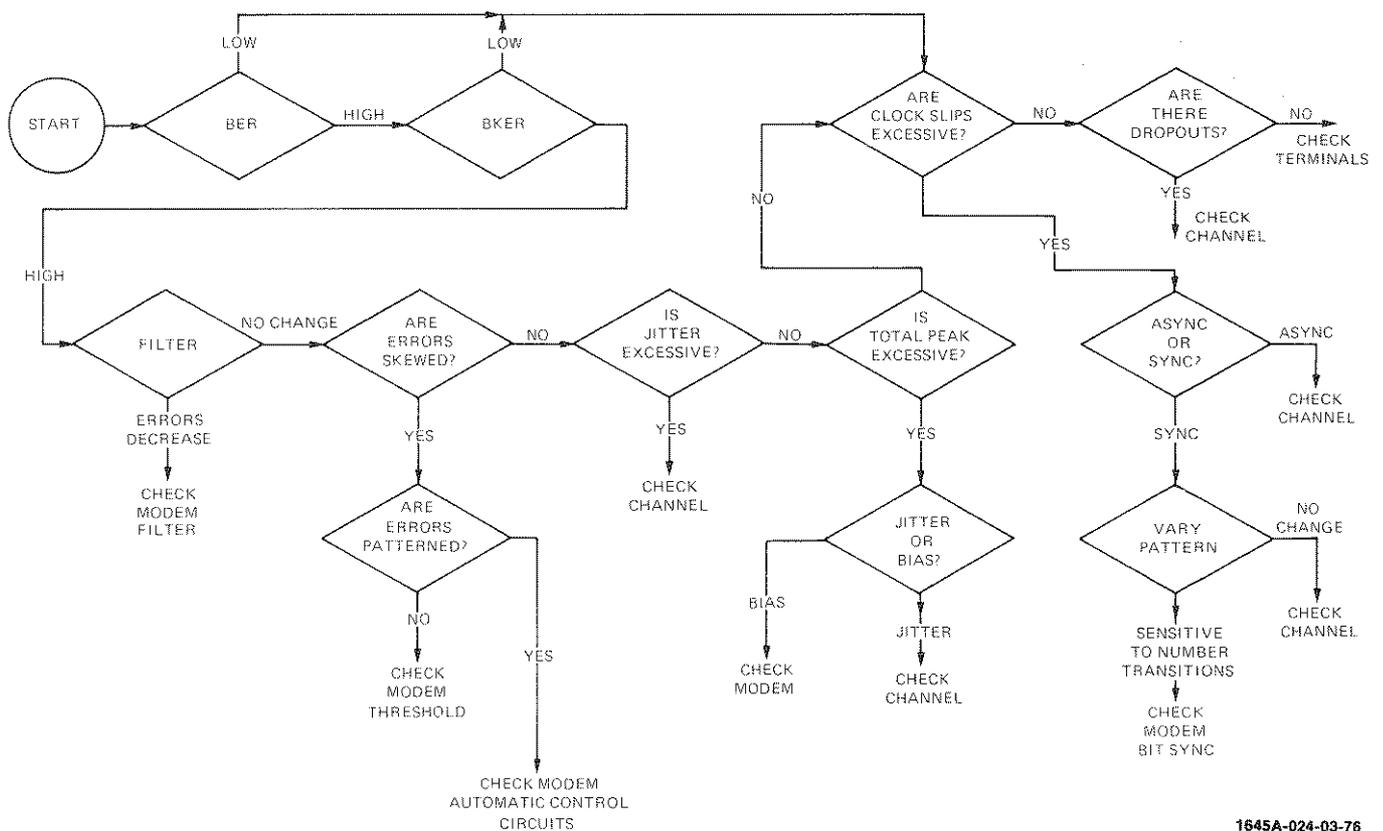

Figure 3-10. Modem Troubleshooting Algorithm
**3-70. MODEM TROUBLESHOOTING.** The flowchart given in figure 3-10 summarizes how the 1645A pinpoints troublesome elements of a communications systems. The algorithm lists the error measurement and error with its probable source.